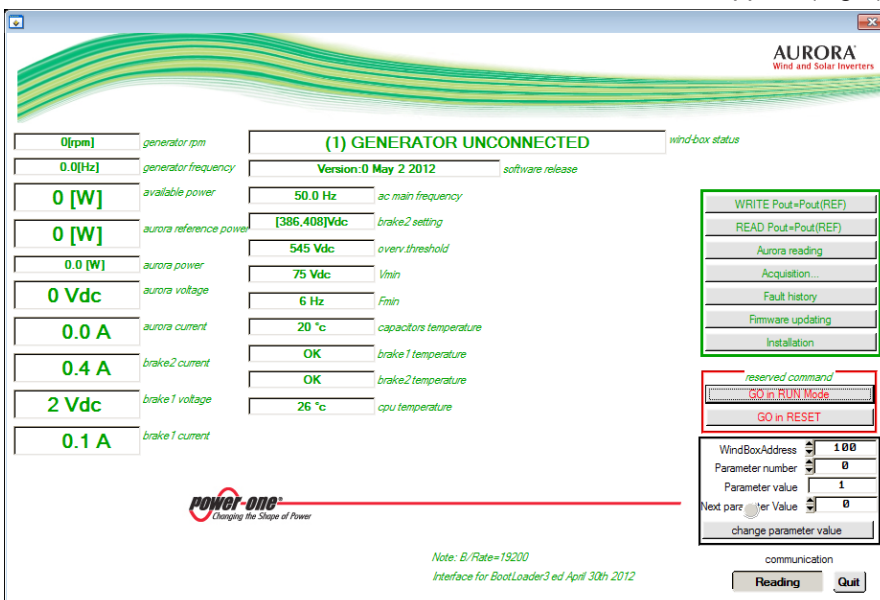

Figure 2
- 12) Click on the button “Start Reading”. The parameters and status of the Wind Interface will appear (Fig 2).